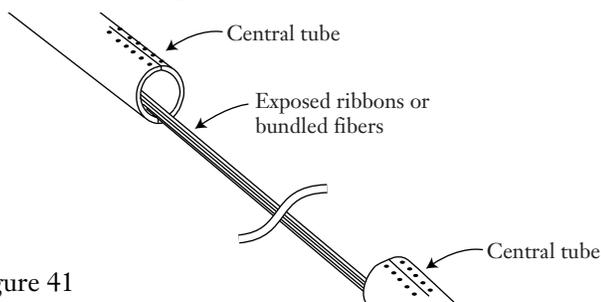

Figure 41
**7.27** Follow the UAT instructions for accessing ribbons or bundled fibers. After using the UAT, the final result should resemble Figure 41.